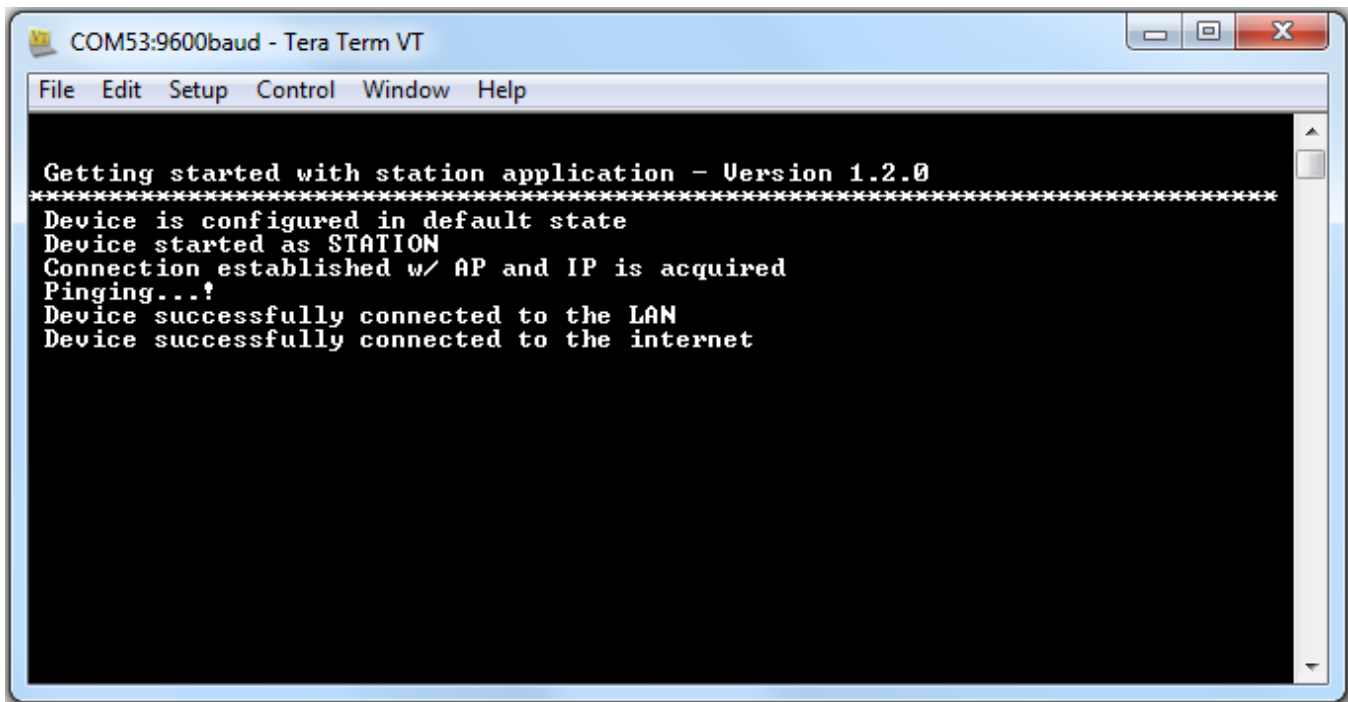

Figure 14. Tera Term VT
10. If the CC3100 successfully completes all steps, the serial output appears as shown in Figure 14.